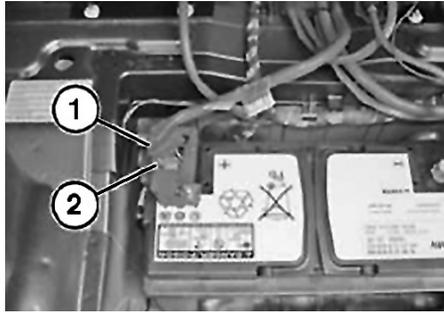

Fig. 3 Battery positive terminal removal
11. Fold back cover (1) as illustrated in **Fig. 3**.
12. Loosen battery positive cable terminal nut (2), **Fig. 3**.
5. Close battery positive cable terminal cover (1), **Fig. 3**.